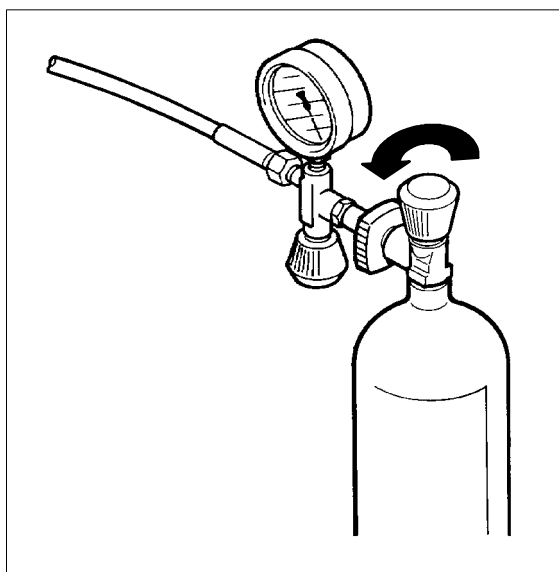

Fig. 22 Connecting air bottle
- Connect air bottle to filling valve (see Fig. 22).